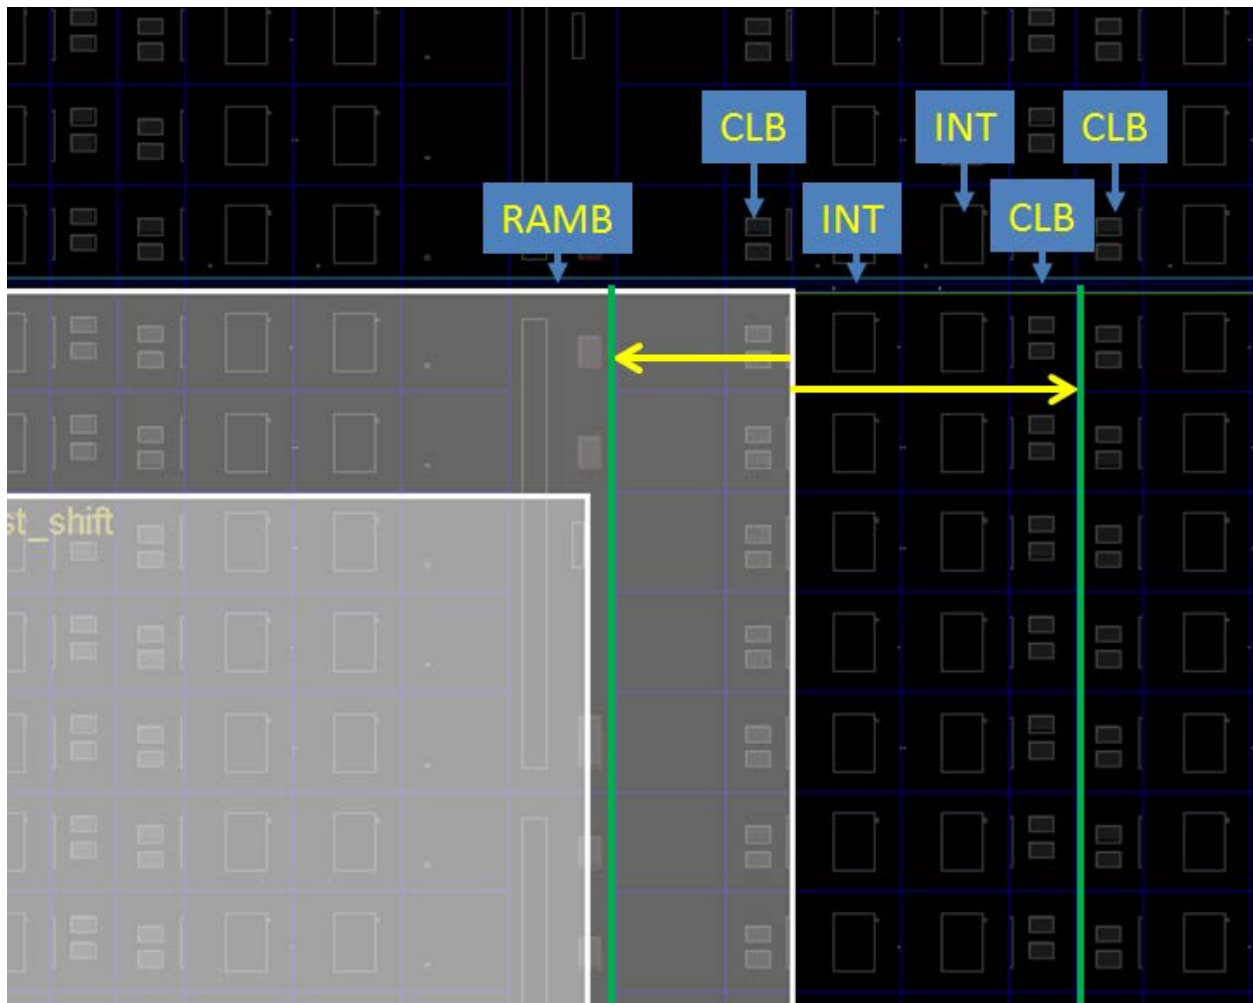

Figure 5: Adjusting the Edges of a Reconfigurable Pblock
- To manually avoid this DRC warning, zoom into the upper or lower corner on the reported edge of `inst_shift` (or `inst_count`, if `inst_shift` did not report an issue) to see where the violation has occurred. Move this edge left or right one column, as shown by the yellow arrows in Figure 5, so it lands between two resource types (CLB-CLB or CLB-RAMB, for example) instead landing between CLB-INT or BRAM-INT.